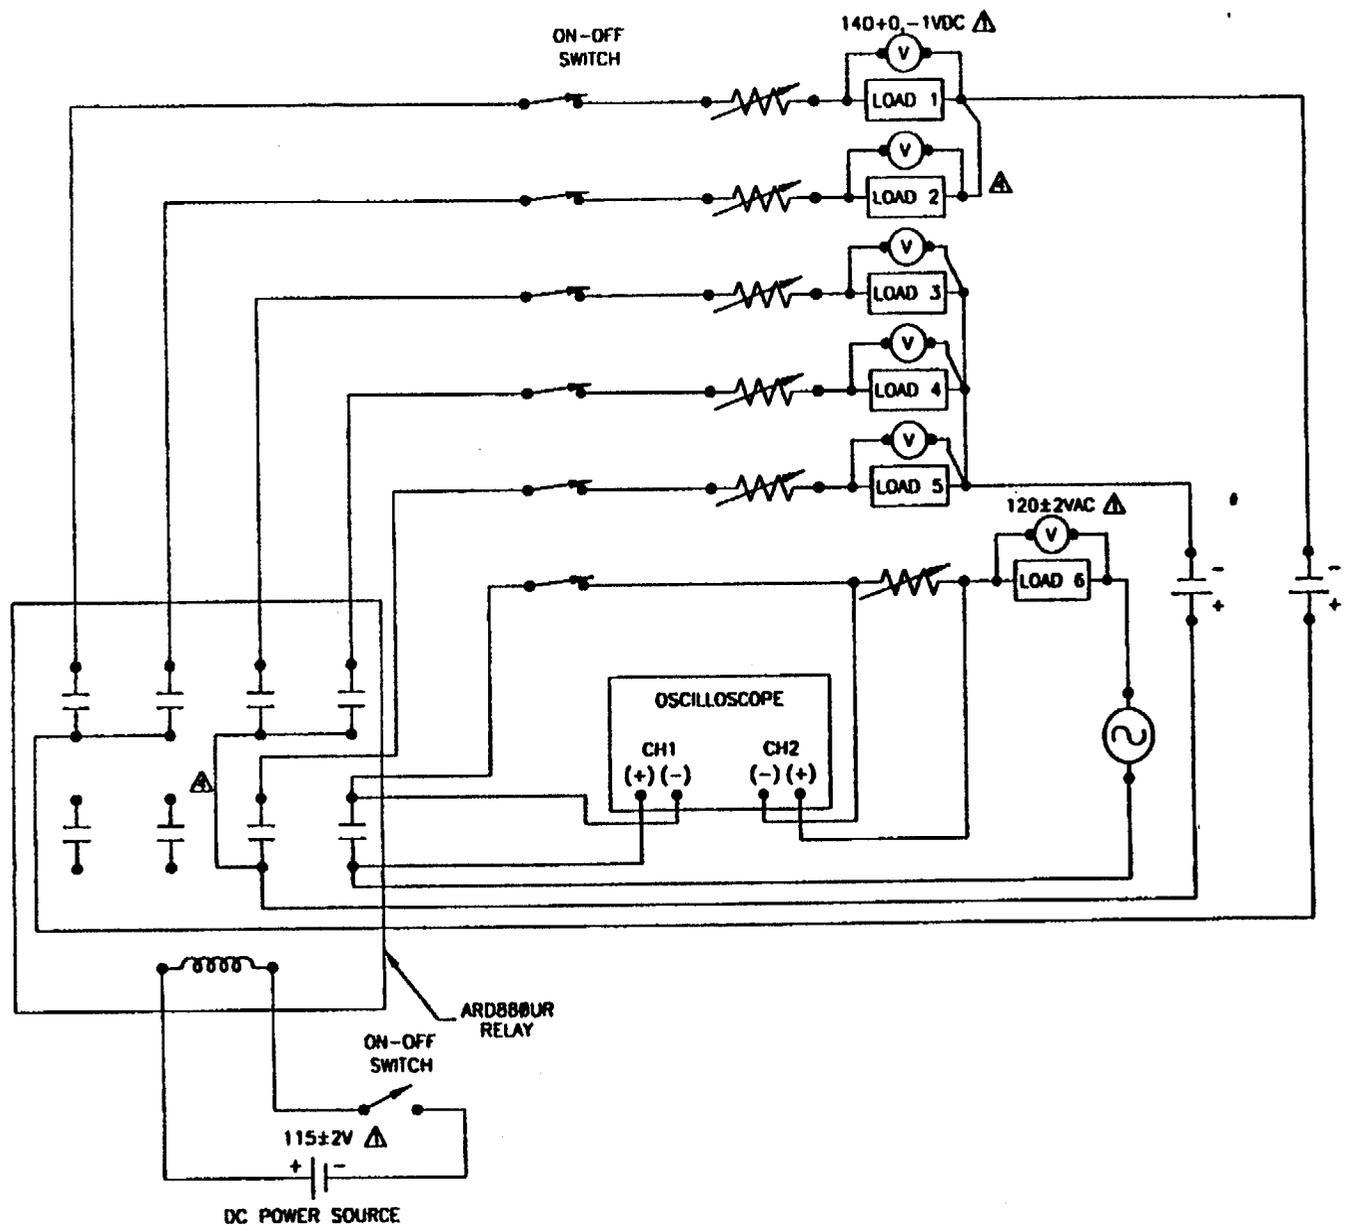

Figure 3.1 Test #1-ARD880UR DC Relay Cycling Test Circuit
- 3.1.1 This test is for the ARD880UR relay. Set up the test circuit as shown in Figure 3.1. The voltage across Loads 1 thru 5 is 140 +0, -1Vdc and across Load 6 is $120 \pm 2\text{Vac}$. Adjust the DC/AC source to achieve the voltages.